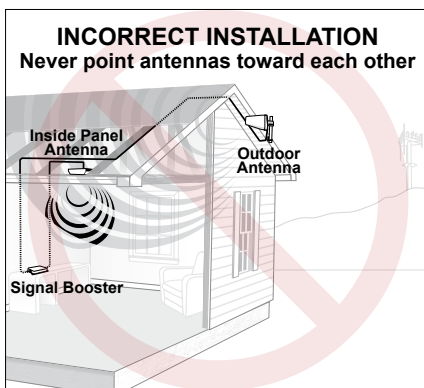

Figure 2
1. Never point the front of a directional Outside Antenna toward the Inside Antenna. Refer to Figure 2 on page 12.